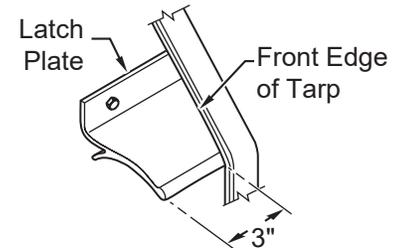

Figure 24-1
1) **Figures 24-1 & 24-2.** Locate the latch plate 3" forward of the front edge of the tarp and 1"-5" below the top rail or as high as possible.